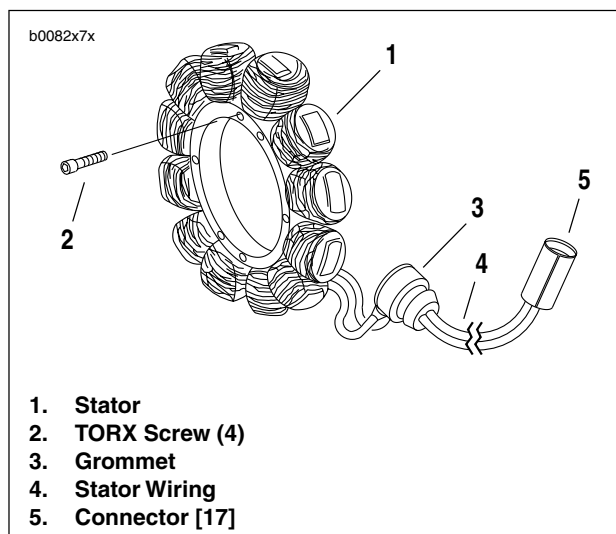

Figure 7-46. Stator Assembly
1. See Figure 7-46. Disconnect stator wiring (4) from voltage regulator wiring at connector (5) [17] near the oil pump.
3. Withdraw stator wiring (4) from behind the gearcase cover.
4. Remove and discard the four TORX screws (2) which secure stator (1) to left crankcase half.
1. See Figure 7-46. Feed stator wiring (4) with attached grommet (3) into open grommet hole in left crankcase half.